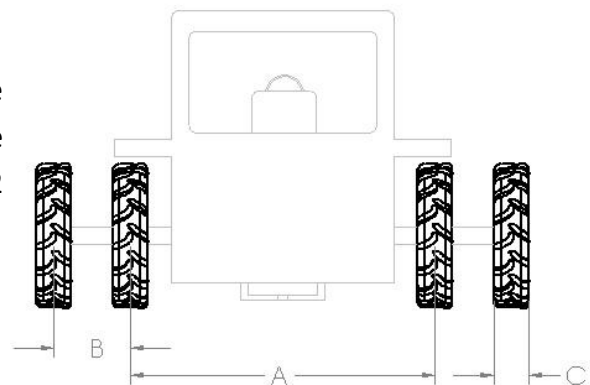

Figure 4-2: Tire Spacing
**4.1.2 Tire Spacing and Inflation:** Tires should be inflated to the manufacturer's specification. See Section 3.3, Traction, for more information. Figure 4-2 shows the appropriate tire spacing.